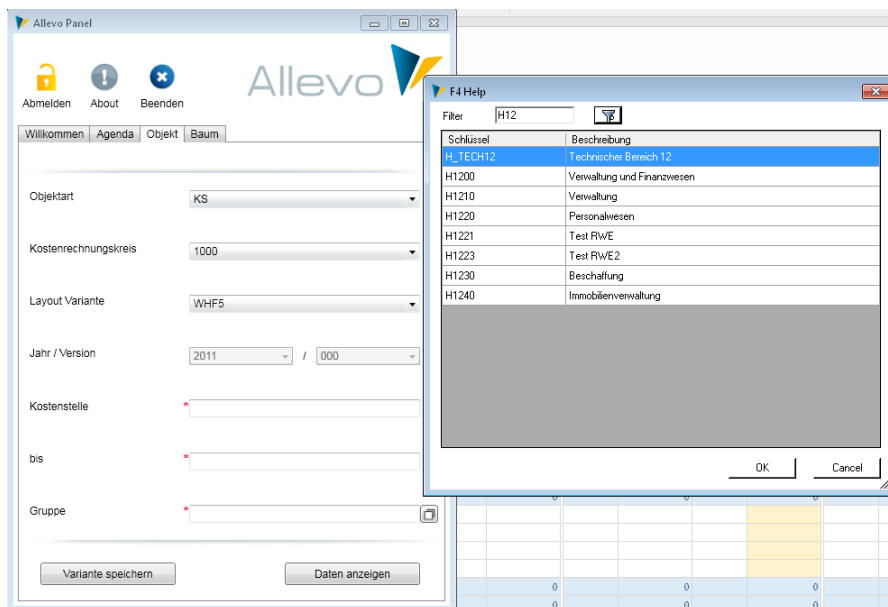
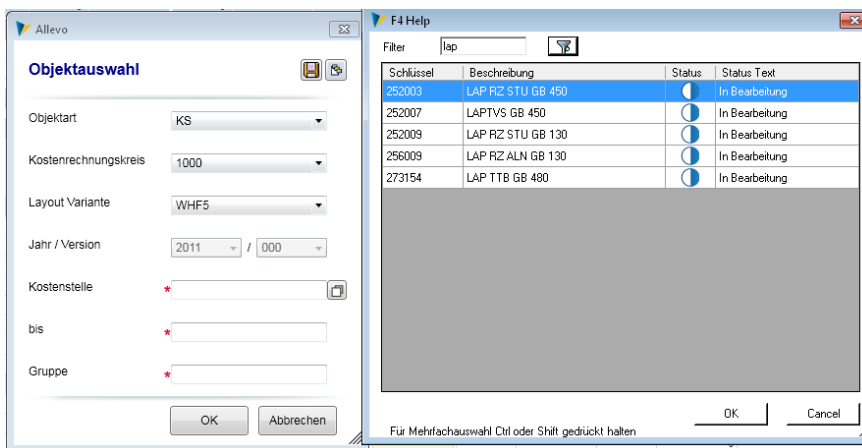

Figure 2.3: ABC Panel with object selection and F4 value help for group
Figure 2.7: ABC object selection and F4 value help (document mode)
- In the document version, the Allevo master is the controlling element. The layouts for which a master is to be used are usually stored there. Accordingly, only the agenda entries stored for these layouts are offered for selection (see Figure 2.7 with icon  for calling up the variant in the screen pop for object selection).
The ABC additionally allows to save a current object selection for further call as a variant (see icon  in Figure 2.7 or button "Save variant" when called via Panel, see Figure 2.3).